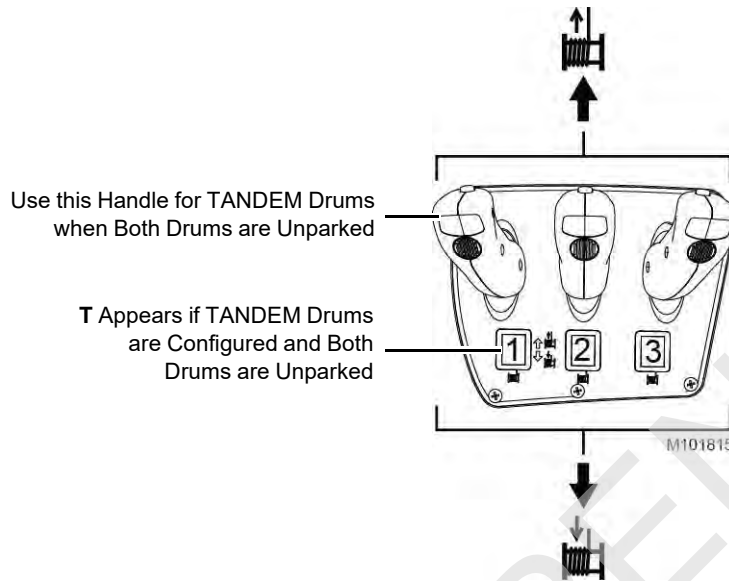

Figure 3-21. Load Drum Control Handles
- With both tandem drums unparked, the left handle on the right console (Figure 3-21) controls both drums simultaneously and automatically adjusts speed to keep the load block level. A **T** appears in the drum identifier.